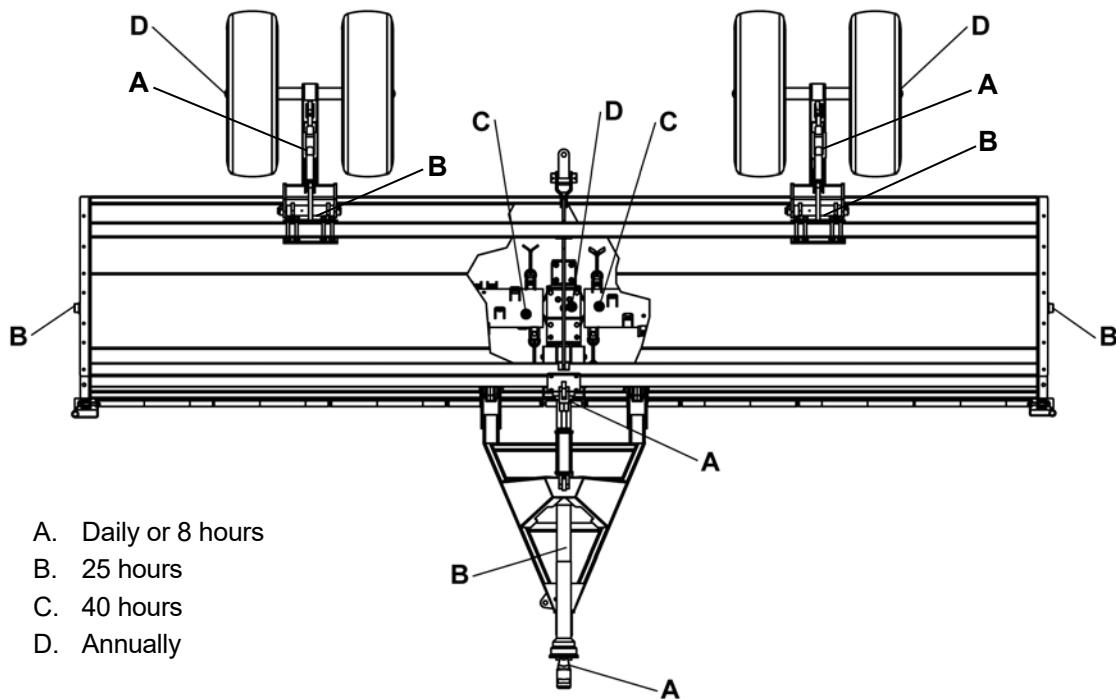

Figure 30. Lubrication Points
NOTE: Recommendations are based on normal operating conditions. Severe or unusual conditions may require more frequent lubrication or oil changes. Refer to Figure 30.
1. Lubricate PTO driveline telescoping section (1 location, Position B, Figure 30).